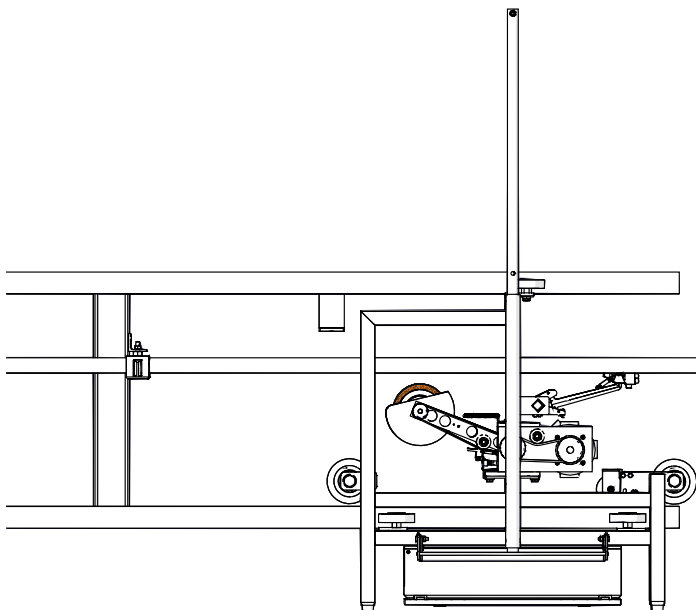

Fig. 13: The cleaning device into the beam
7. Lower fork and release lifting loop from fork, then lift cleaning device at the back of the frame (by hand) and push it in drive direction until the second main roller fits on the steel structure (see Fig. 13).